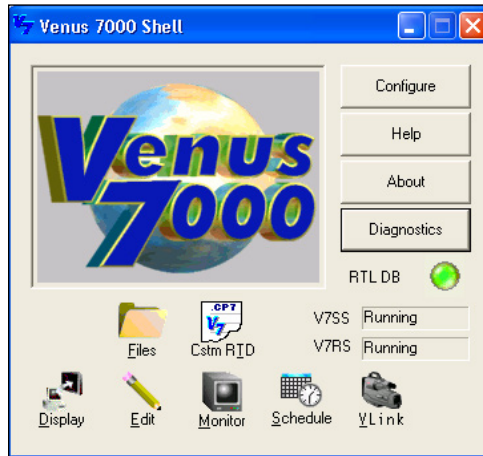

Figure 39: Venus® 7000 Shell
- a. Click the **VLink** button in the bottom-right corner of the **Venus® 7000 Shell**. Refer to **Figure 39**.